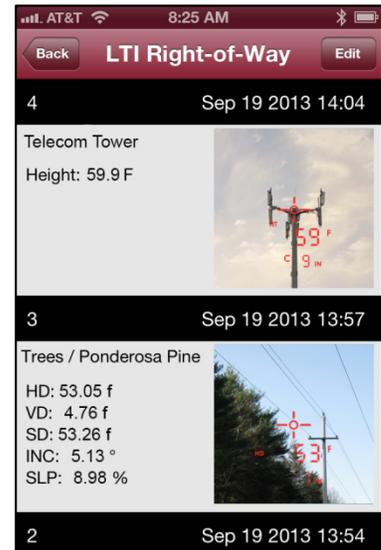

Figure 25
4. Tap the shot to review its measurement details (Figure 25).